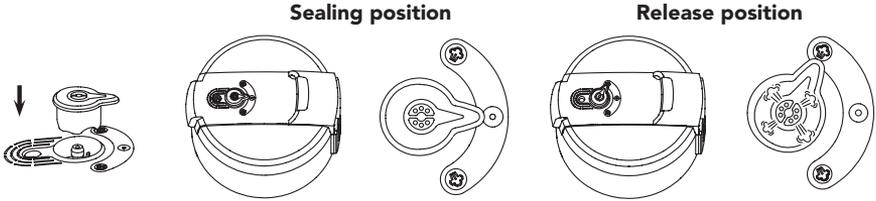

FIG 4 How to remove/install the sealing ring
- C. Remove the inner cooking pot (Fig 2), the pressure release valve (Fig 3), the sealing ring (Fig 4) and wash in hot soapy water with all other accessories. Dry thoroughly.
NOTE: Ensure the sealing ring is properly installed before operating. Do not operate the sealing ring is damaged. Refer to Fig 4.
2. Remove the sealing ring from under the lid. Rinse in hot water. Rinse and dry thoroughly. Refer to Fig.4